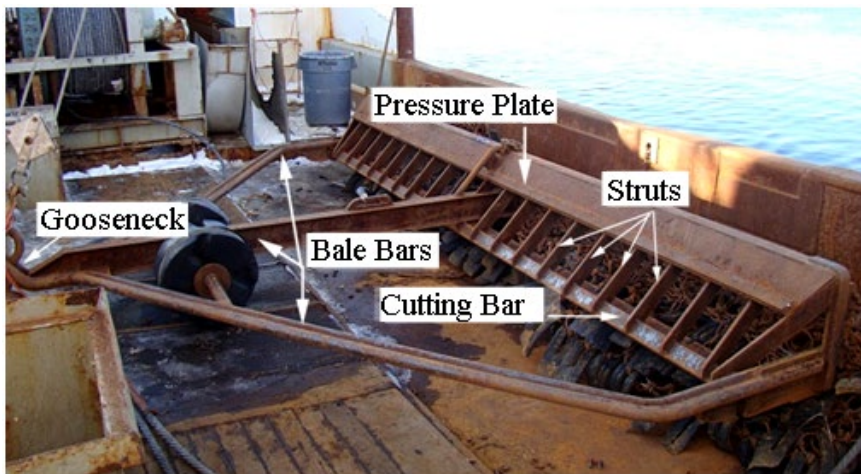

Figure 40. Turtle deflector scallop dredge.
*Turtle Deflector Dredge:* Any frame where the following characteristics are met (see FIGURE 40):